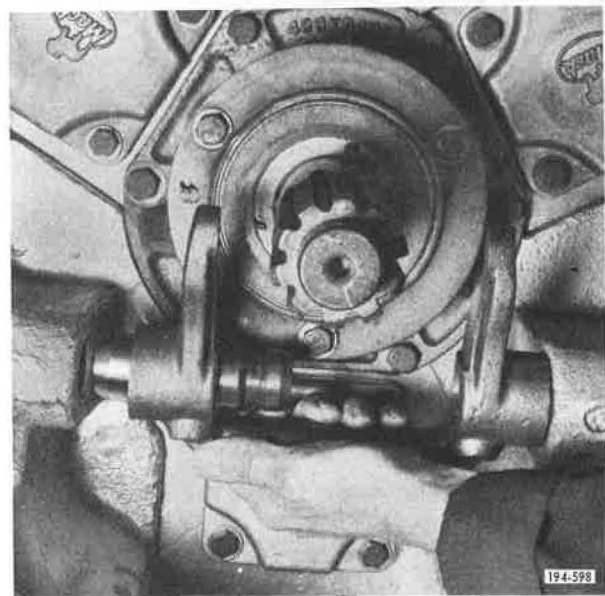

Figure 5-228. Removing Yoke and Stub Shaft
6. Slide clutch release stub shaft inward, and remove it with clutch release yoke. See Figure 5-228.